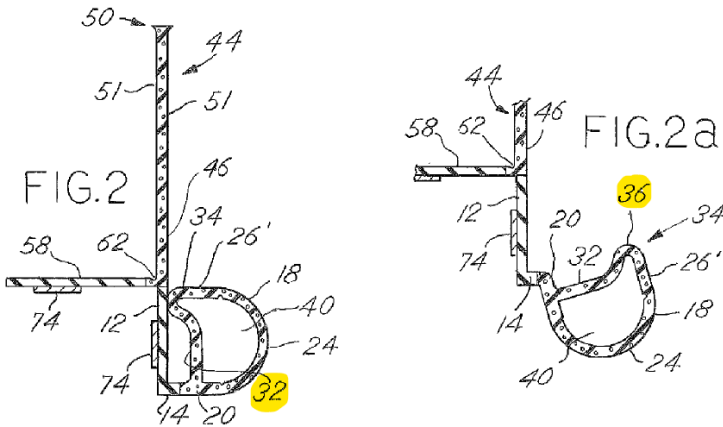

Figure 2 - Jaeger-Unitek Patent US 9,045,027 B2
A closer look into Figure 2 and 2a provides insight into the advantages of creating the “flipping” function of the seal to provide RV slide-out installers with an easy method to “wet-out” the pressure sensitive adhesive tape, while applying fasteners for a secure and robust mounting and sealing function. By incorporating the “duck-bill” shaped bulb (36) and modifying the nominal wall section (32), the stiffness is increased, resulting in the improved ability of the bulb to recover following extended loading conditions. Specifically, an improved resistance to a compression load during slide-out cycling, and the subsequent recovery of the original geometry, is achieved. Ultimately, the design delivers the ability to “coil” the slide-out seal, eliminates the historical use of two-component seals, and achieves reduced storage space requirements.